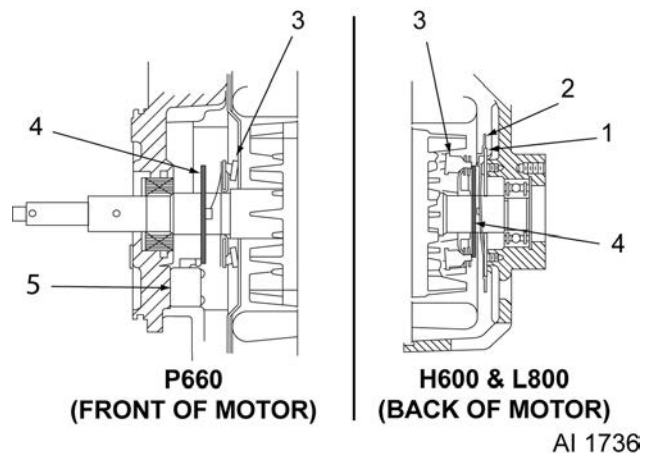

Fig. 103
2. Check the centrifugal switch contacts [1] Fig. 103 on H600 and L800 mixers and the starting switch [5] Fig. 103) on P660 mixers.
- A. The stationary part of starting switch [2] Fig. 103 is located in the rear bearing bracket.
- B. If the contacts [1] Fig. 103 are pitted or burnt, replace the stationary part.
- A. The centrifugal weights [3] Fig. 103 should be free to move their full amount of travel without binding.
- B. The Bakelite sleeve [4] Fig. 103 should slide freely on the rotor shaft and not be cracked.